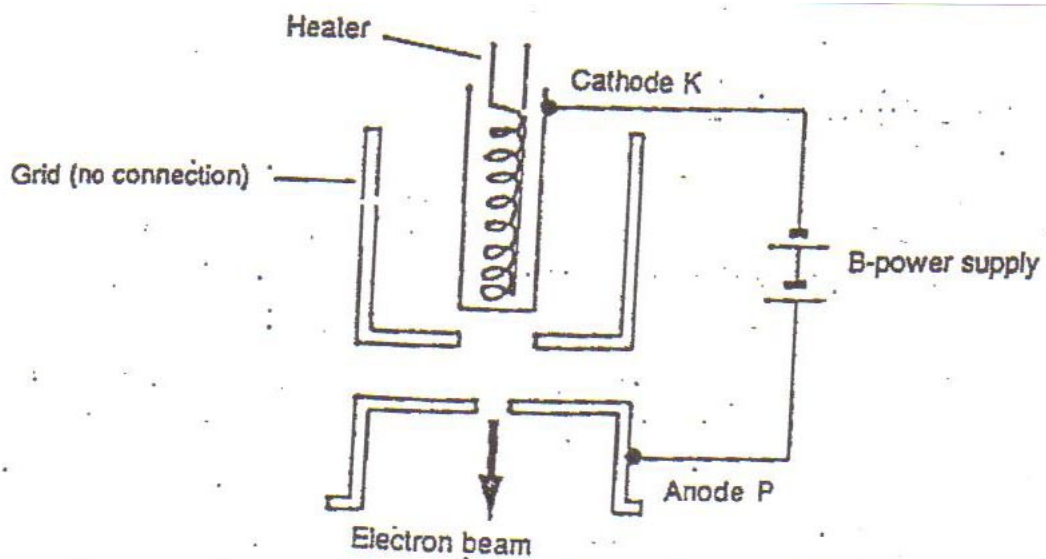

Figure 2: Electron Gun
Figure 2 illustrates the electron gun used to accelerate electrons by means of an applied electromagnetic field.
The Cathode K (Figure 2) is heated, releasing thermal electrons, whose motion is accelerated by the electric potential (V) applied between anode P and Cathode K. The velocity (v) of an electron accelerated by the electric potential (V) applied at the anode, can be calculated using the Law of the Conservation of Energy, as follows (ignoring the initial velocity of the electron as it is discharged from the cathode):